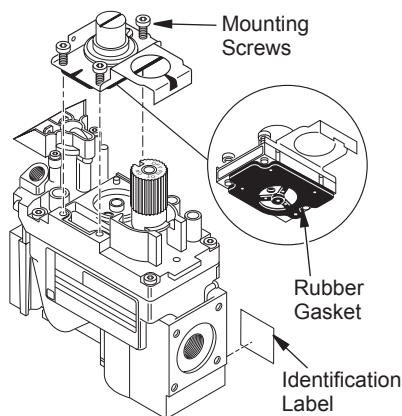

Figure 11 - Installing Pressure Regulator Assembly
2. Insure that rubber gasket is properly positioned on new pressure regulator assembly. Install new pressure regulator assembly to valve using new mounting screws supplied with kit. Tighten screws securely (approximately 25 in-lbs.) See Figure 11, page 9.
3. Install identification label enclosed with gas valve regulator to valve body where it can easily be seen (see Figure 11).